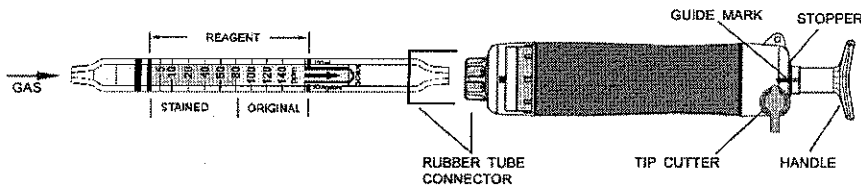

Fig.1
- ② Insert the detector tube into the aspirating pump securely as shown in Fig.1. (Arrow mark shall point to the pump.)
- ③ Align the guide marks on the shaft and stopper of the aspirating pump.
- ④ Pull the pump handle at a full stroke until it locks and wait for 1 minute or until the completion of sampling is confirmed with the flow indicator of the pump. (See descriptions about the flow indicator in the instruction manual of the pump.)
- ⑤ On completion of sampling, read the scale at the maximum point of the stained layer.
- ① Temperature; No correction is necessary.
- ② Humidity; The scale is calibrated based on the Humidity of 50%R.H. Readings obtained in other humidity circumstance should be corrected with the following humidity correction table.